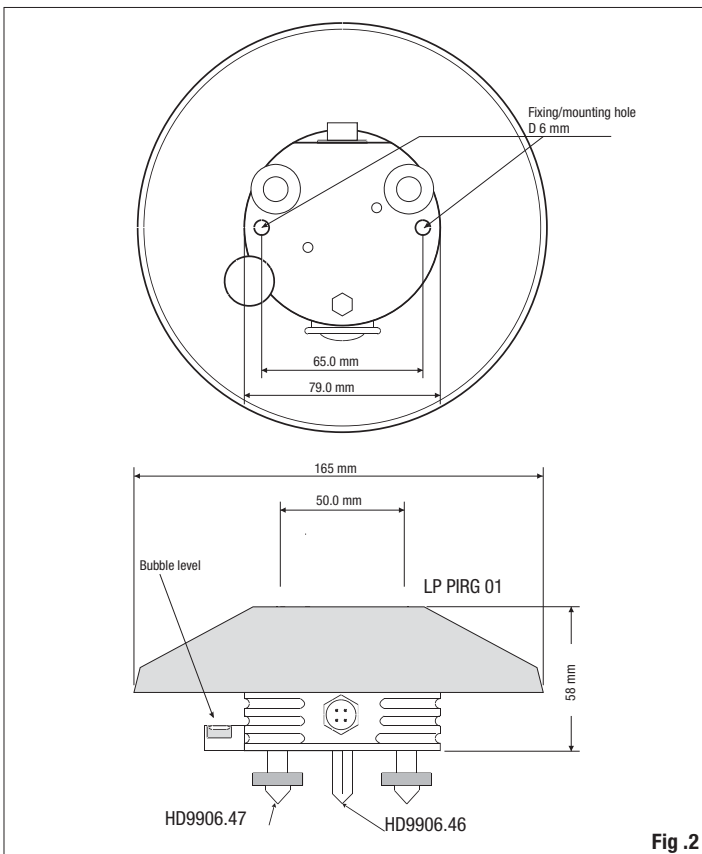

Fig. 2
- For an accurate horizontal positioning, the pyrgometer LP PIRG 01 is equipped with a spirit level, which adjustment is by two screws with lock nut that allows changing the pyrgometer inclination. The fixing on a flat base can be performed by using two 6mm diam. holes and 65 mm wheelbase. In order to access the holes, remove the screen and re-place it back after mounting, see figure 2.